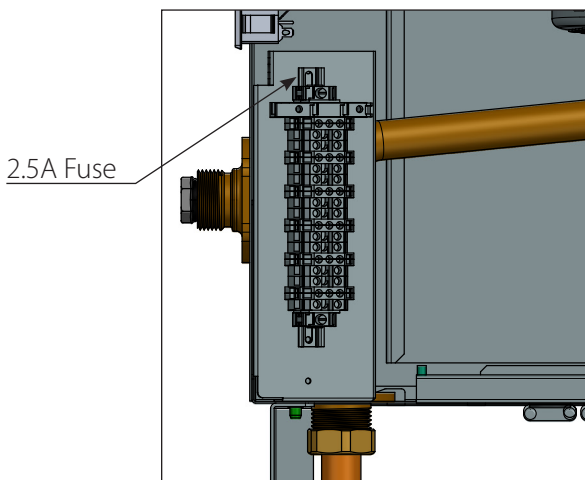

Fig. 30 - Terminal Strip Location
- A 2.5A fuse is also located on the terminal strip, to protect the output. Refer to *Fig. 30 on page 46*.
1. Connect a dedicated 120 VAC/15A service to the line voltage terminals located internally in the lower left corner, as shown in Fig. 30 below.
2. Connect the CH1 & CH2 circulator wiring to the respective line voltage terminals located internally in the lower left corner, as shown in Fig. 30 on the left. This circulator is typically used to supply heat to the central/ space heating loop.
3. Connect the DHW circulator wiring to the line voltage terminals located internally in the lower left corner, as shown in Fig. 30 on the left. This circulator is typically used to supply heat to an indirect hot water heater.
4. The boiler pump is factory wired to the line voltage terminal as shown in Fig. 30 on the left.